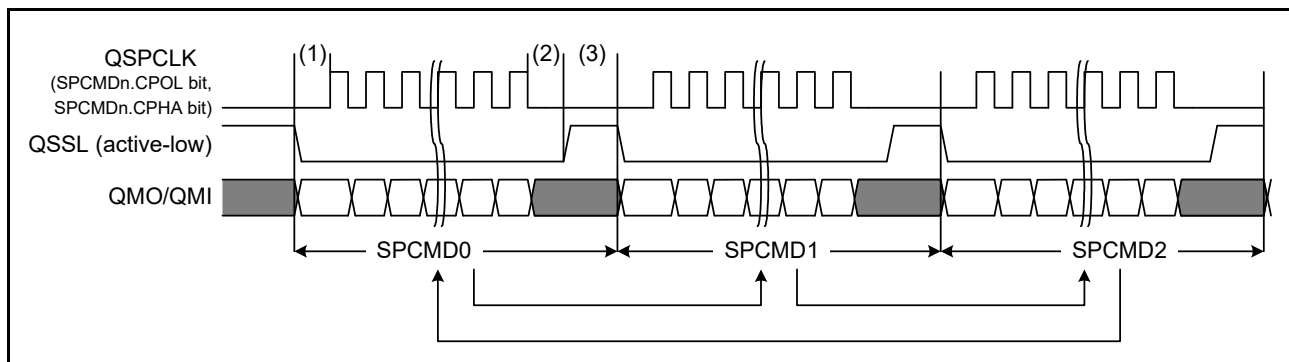

Figure 45.12 Sequence Control Operation (n = 0 to 3)
Figure 45.12 shows an operation example when the SPSCR register is set to 02h, and the sequence is configured based on SPCMD0 to SPCMD2 register settings. In Figure 45.12, shaded areas of QMO/QMI indicate invalid data. Periods (1) to (3) in the figure indicate the followings.
- (1) Clock delay period (SPCKD) setting value = 000b (1.5 QSPCLK cycles)
- (2) QSSL negation delay period (SSLND) setting value = 000b (1 QSPCLK cycle)
- (3) Next-access delay period (SPND) setting value = 000b (1 QSPCLK cycle)